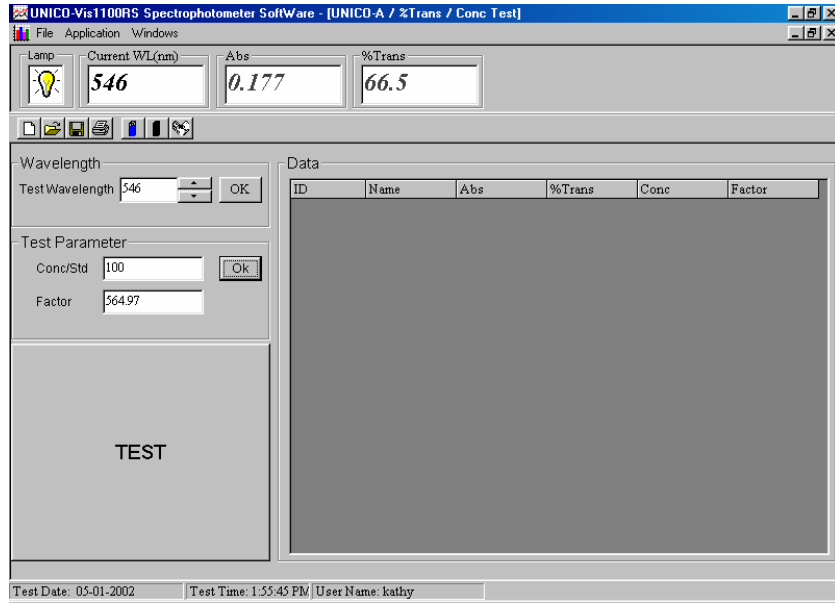

Figure-26 Standard Solution **Absorbance** Measurement
Step 6A: Click the **OK** Button in **Test Parameter** section. This will measure the **Absorbance** of the standard and set its conversion **Factor** for measuring the unknown samples (Figure-26).